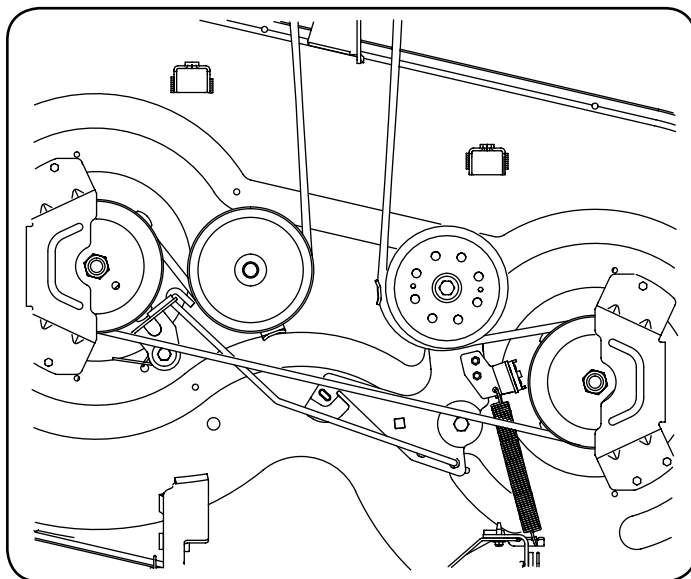
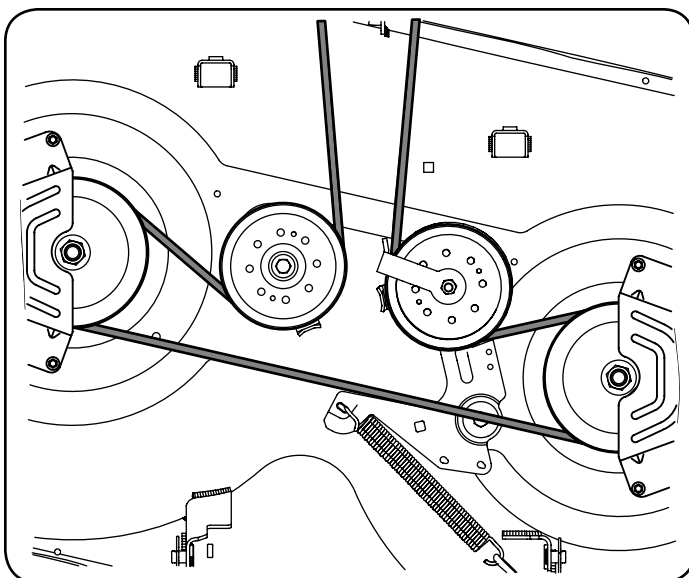
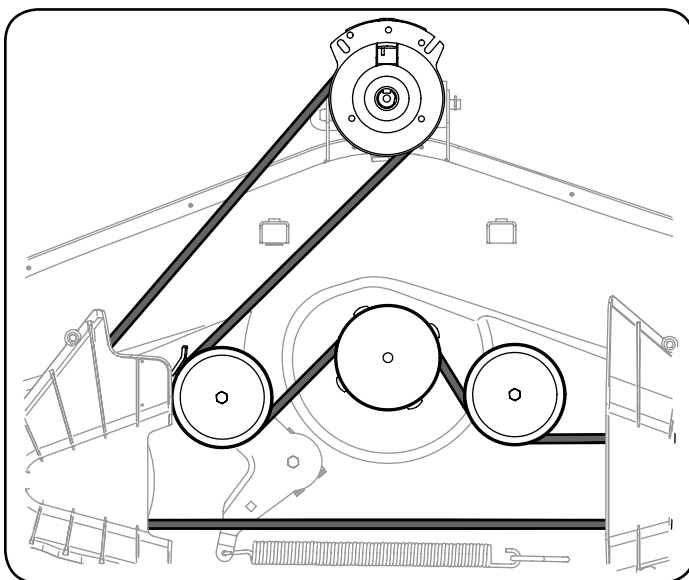

Figure 37
Figure 38
Figure 39
4. Route the new belt as shown in Figure 37 for 42" Decks, Figure 38 for 46" Decks and Figure 39 for 50" and 54" Decks.